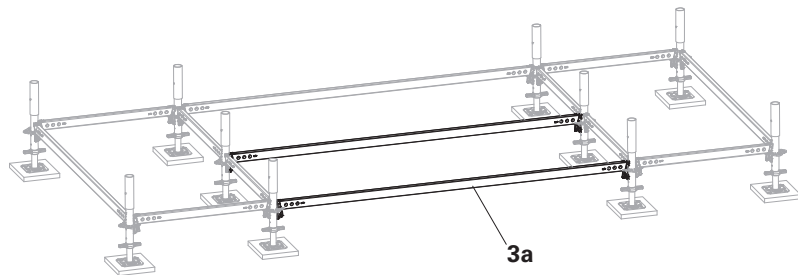

Fig. A1.05
1. Fit two more Horizontal Ledgers UH-2 250 (**3a**) as assembly aids. (Fig. A1.05)
2. The base level is aligned horizontally by accurately adjusting the Base Spindles UJB (**1**). Maximum spindle length 17 cm. (Fig. A1.05)